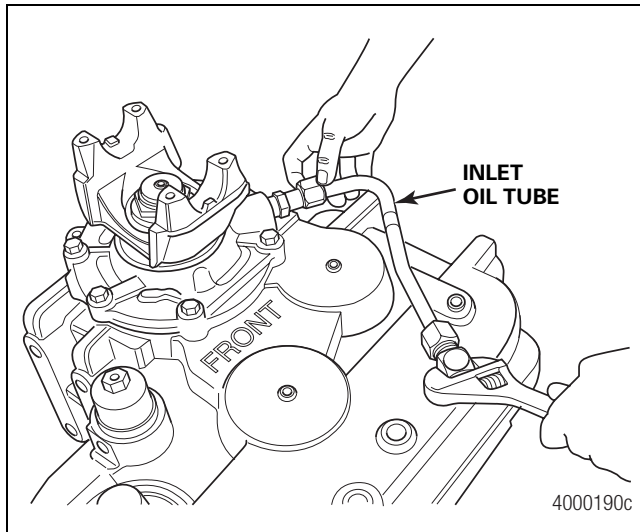

Figure 6.28
14. Install the oil inlet tube to the lower and upper fittings. Tighten the fitting nuts to 35-40 lb-ft (48-54 N•m). Figure 6.28.